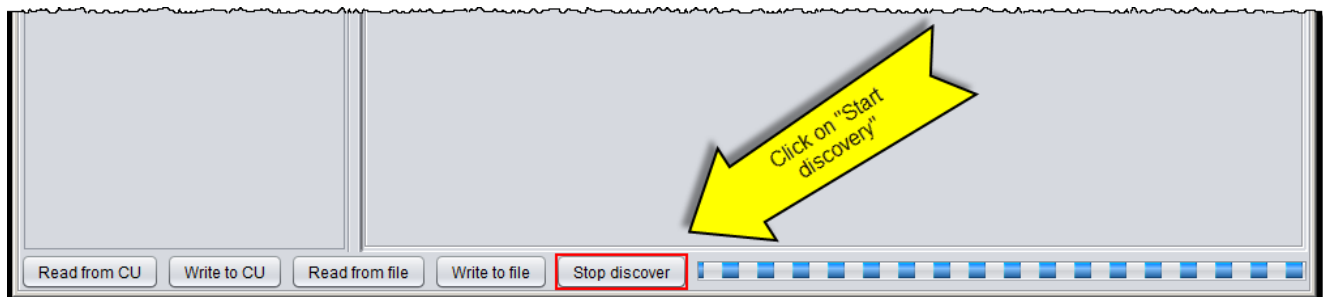

Figure 30: Start discover
1. If not done yet, click on “**Start discover**” button as shown in Figure 30 to put the CU in *Discovery mode*. In this mode the CU checks for new IDAMs or DAMs present in the system.
1. If not done yet, click on “**Start discover**” button as shown in Figure 30 to put the CU in *discovery mode*. In this mode the CU checks for new IDAMs or DAMs present in the system.